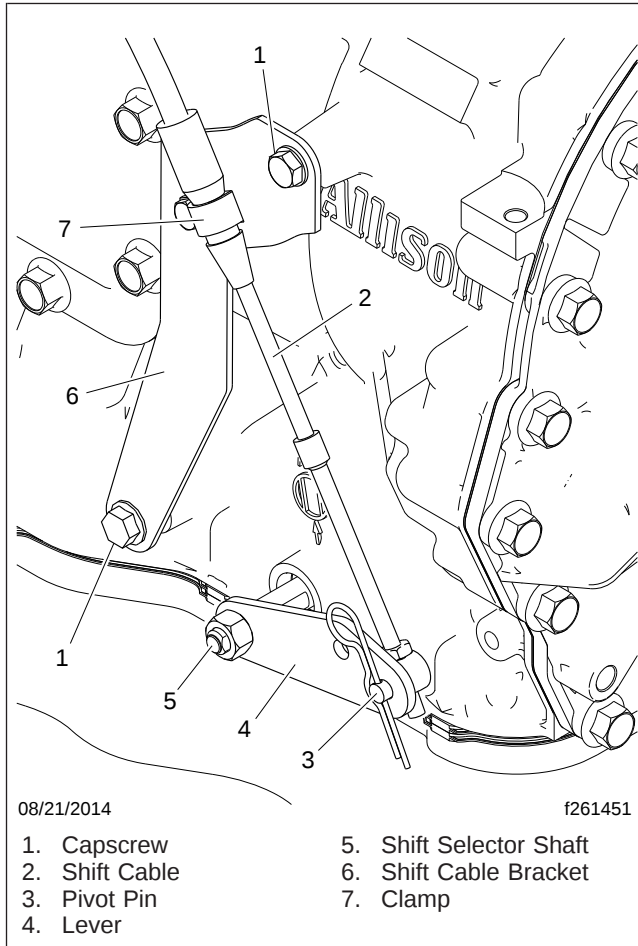

Fig. 1, Existing Shift Cable Installation at the Transmission
3. Remove the two capscrews that attach the shift cable bracket to the transmission, and the nut that holds the transmission shift lever on the shift selector shaft. See Fig. 1.
3. Remove the cotter pin, then remove the pivot pin and shift cable from the transmission shift lever. See Fig.1.